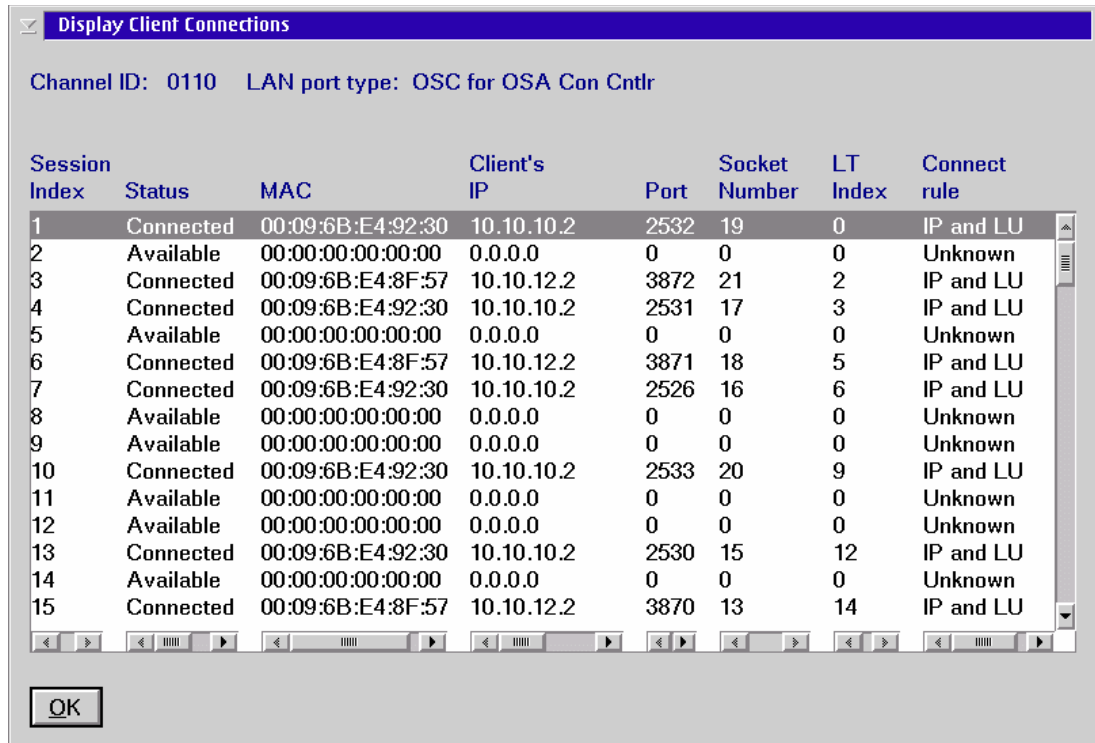

Figure 4-4 Display client connections
- ▶ Session index number: OSC Index 01 (see Figure 4-4 on page 69).
- ▶ Logical Terminal Index number: 00 (see Figure 4-4 on page 69).
- ▶ OSA-ICC outbound host port: 2532. Allocated by the TN3270E emulator program for this session connection (see Figure 4-4 on page 69).
- Starting with the Advanced Facilities panel, click **Display client connections**, and click **OK**. The Display Client Connections panel is displayed (Figure 4-4).
Attention: The number entered in the Drop Session panel is the Session Index number, *not* the Logical Terminal Index number (see Figure 4-4 on page 69).